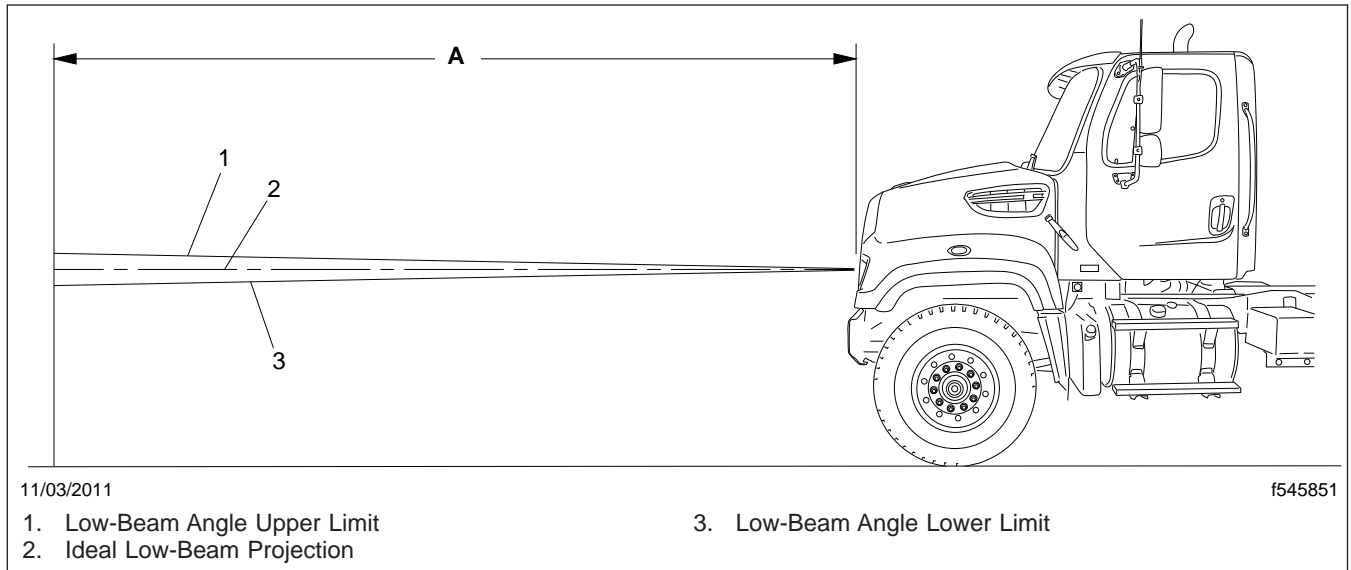

Fig. 23.2, Vertical Low-Beam Headlight Variation Limits
6. Check the vertical adjustment of the low beams. The center of each beam projection should fall on or near the marks made during step 4. See Fig. 23.2.